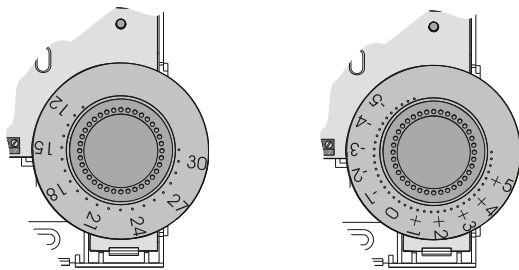

Fig. 3. Mounting position of setpoint dial
6. CLCM2T,4T,5T,6T, only: Make sure that the dial's position is such that the 30 (°C absolute scale) or the +5 (°C relative scale) points to the right-hand side of the wall module (see Fig. 3).